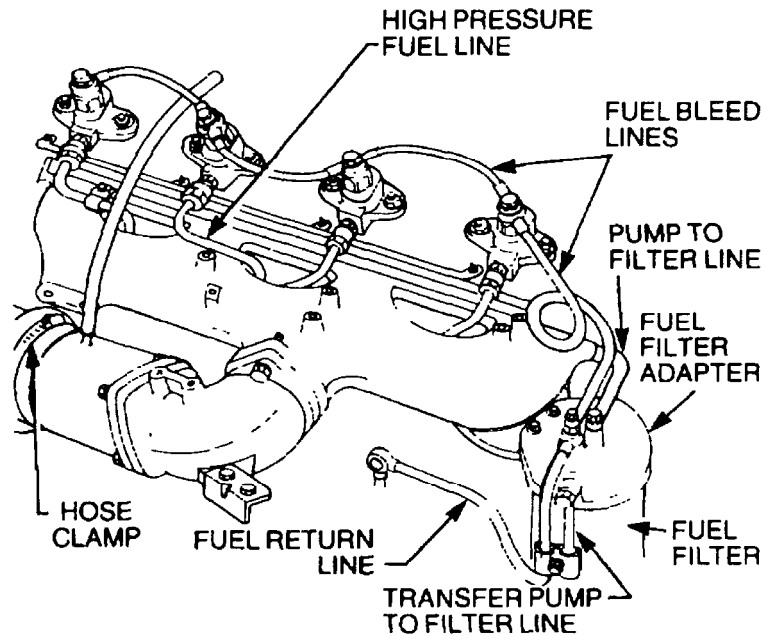

Figure 9 Air Inlet Manifold Removal
- c. Remove and plug all the fuel lines from the fuel filter (Figure 9).